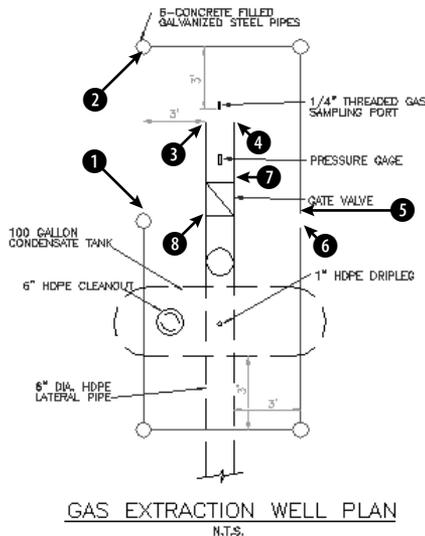
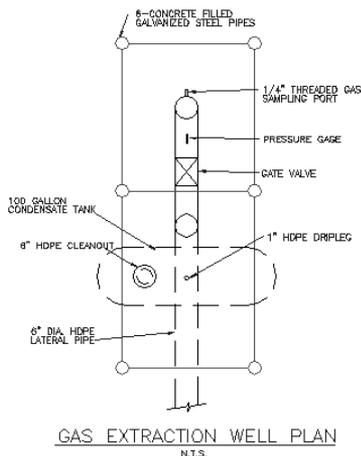

Figure 11-12: This gas extraction well plan drawing needs to be completed.
Figure 11-13: The completed drawing.
2. Save the file as `ab11-02.dwg` in your AutoCAD Bible folder. This drawing is shown in Figure 11-12. The current layer is 0. Make sure OSNAP is on. Set running object snaps for endpoint and quadrant.
4. Start the LINE command. Draw a line from ❶ to ❷ in Figure 11-12, using the Quadrant running object snap.
7. Start the CIRCLE command. Right-click and choose 2p to use the two-point option. Draw a circle from the endpoint of ❸ to ❹ in Figure 11-12 using the Endpoint running object snap.
8. Without changing the layer, start the CIRCLE command and again use the 2p option. Draw a circle between the endpoints at ❺ and ❻.
10.  Pick any red object (the Pipes layer). Choose Make Object's Layer Current from the Layers toolbar. The Pipes layer is now the current layer. Draw a line from the right quadrant of the circle at ❶ to the left quadrant of the circle at ❺ and ❻ in Figure 11-12.
12. Draw a line from the endpoint at ❷ to the endpoint at ❸.
14. Save your drawing. It should look like Figure 11-13.